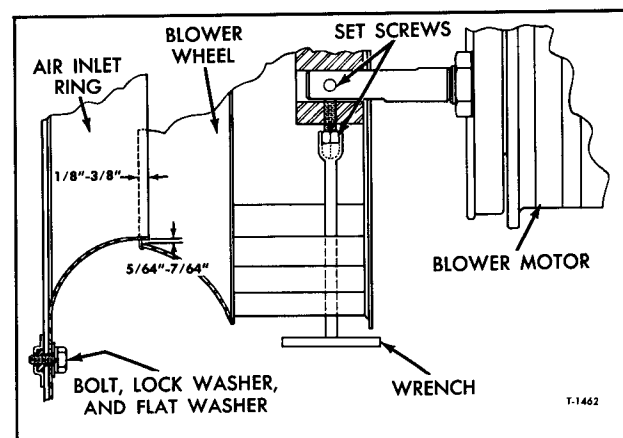

Figure 5—Blower Wheel and Air Inlet Ring Locations
7. To install blower wheel coat motor shaft with Lubriplate, back out set screws sufficiently to prevent interference as wheel is installed, then position the blower wheel on motor shaft with the two set screws aligned with the flat areas on motor shaft. Tighten set screws with fingers so ends just contact shaft lightly. Final tightening of set screws is done after blower motor has been mounted in compartment and blower wheel is properly located to provide the 1/8 to 3/8 inch overlap with the inlet ring (fig. 5).
8. Set the blower motor and wheel assembly in place with mounting bolt holes aligned with holes in floor. Insert bolts through bracket to hold motor in place, then move blower wheel inward or outward as necessary so edge of wheel will overlap ring as shown in figure 5. When wheel is properly located, a socket wrench may be inserted through wheel blades to tighten set screws sufficiently to hold wheel in place. Remove motor and wheel assembly and tighten set screws securely.
10. Check for clearance between O.D. of air inlet ring and I.D. of blower wheel. A clearance of 5/64 to 7/64 inch should exist at all points around circumference of inlet ring (fig. 5). If it is necessary to adjust clearance between ring and wheel, loosen the four bolts which secure the ring to the